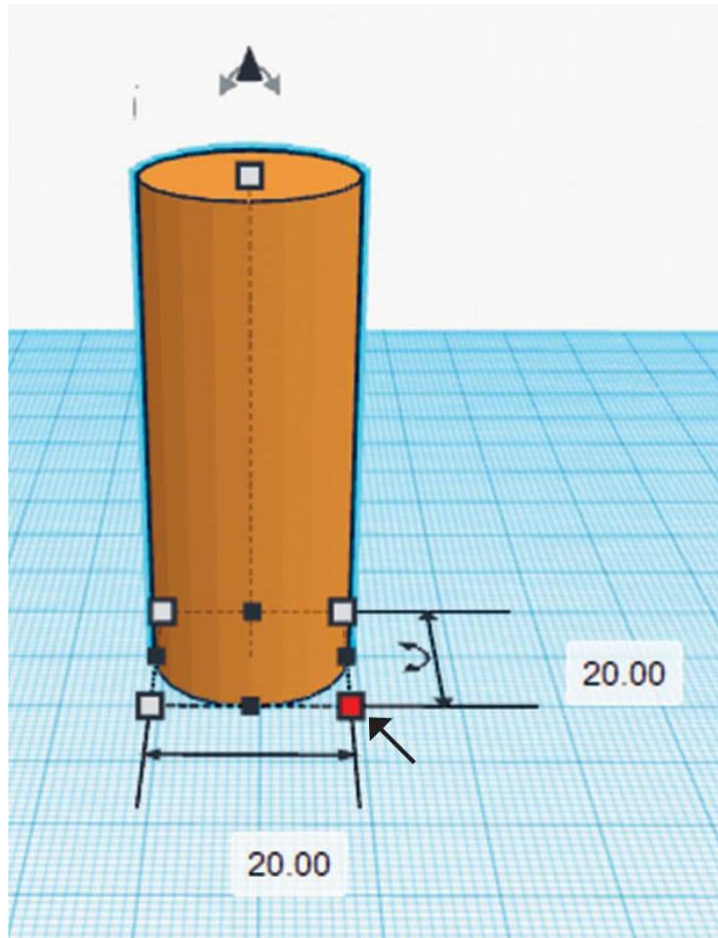

FIG. 4: Click on the black square size adjusting tool on the bottom corner to see the diameter of the cylinder.
4. Check the dimension of the cylinder to make sure it is 10 mm in radius (or 20 mm diameter) by clicking on the small black arrow on any bottom corner (fig. 4).